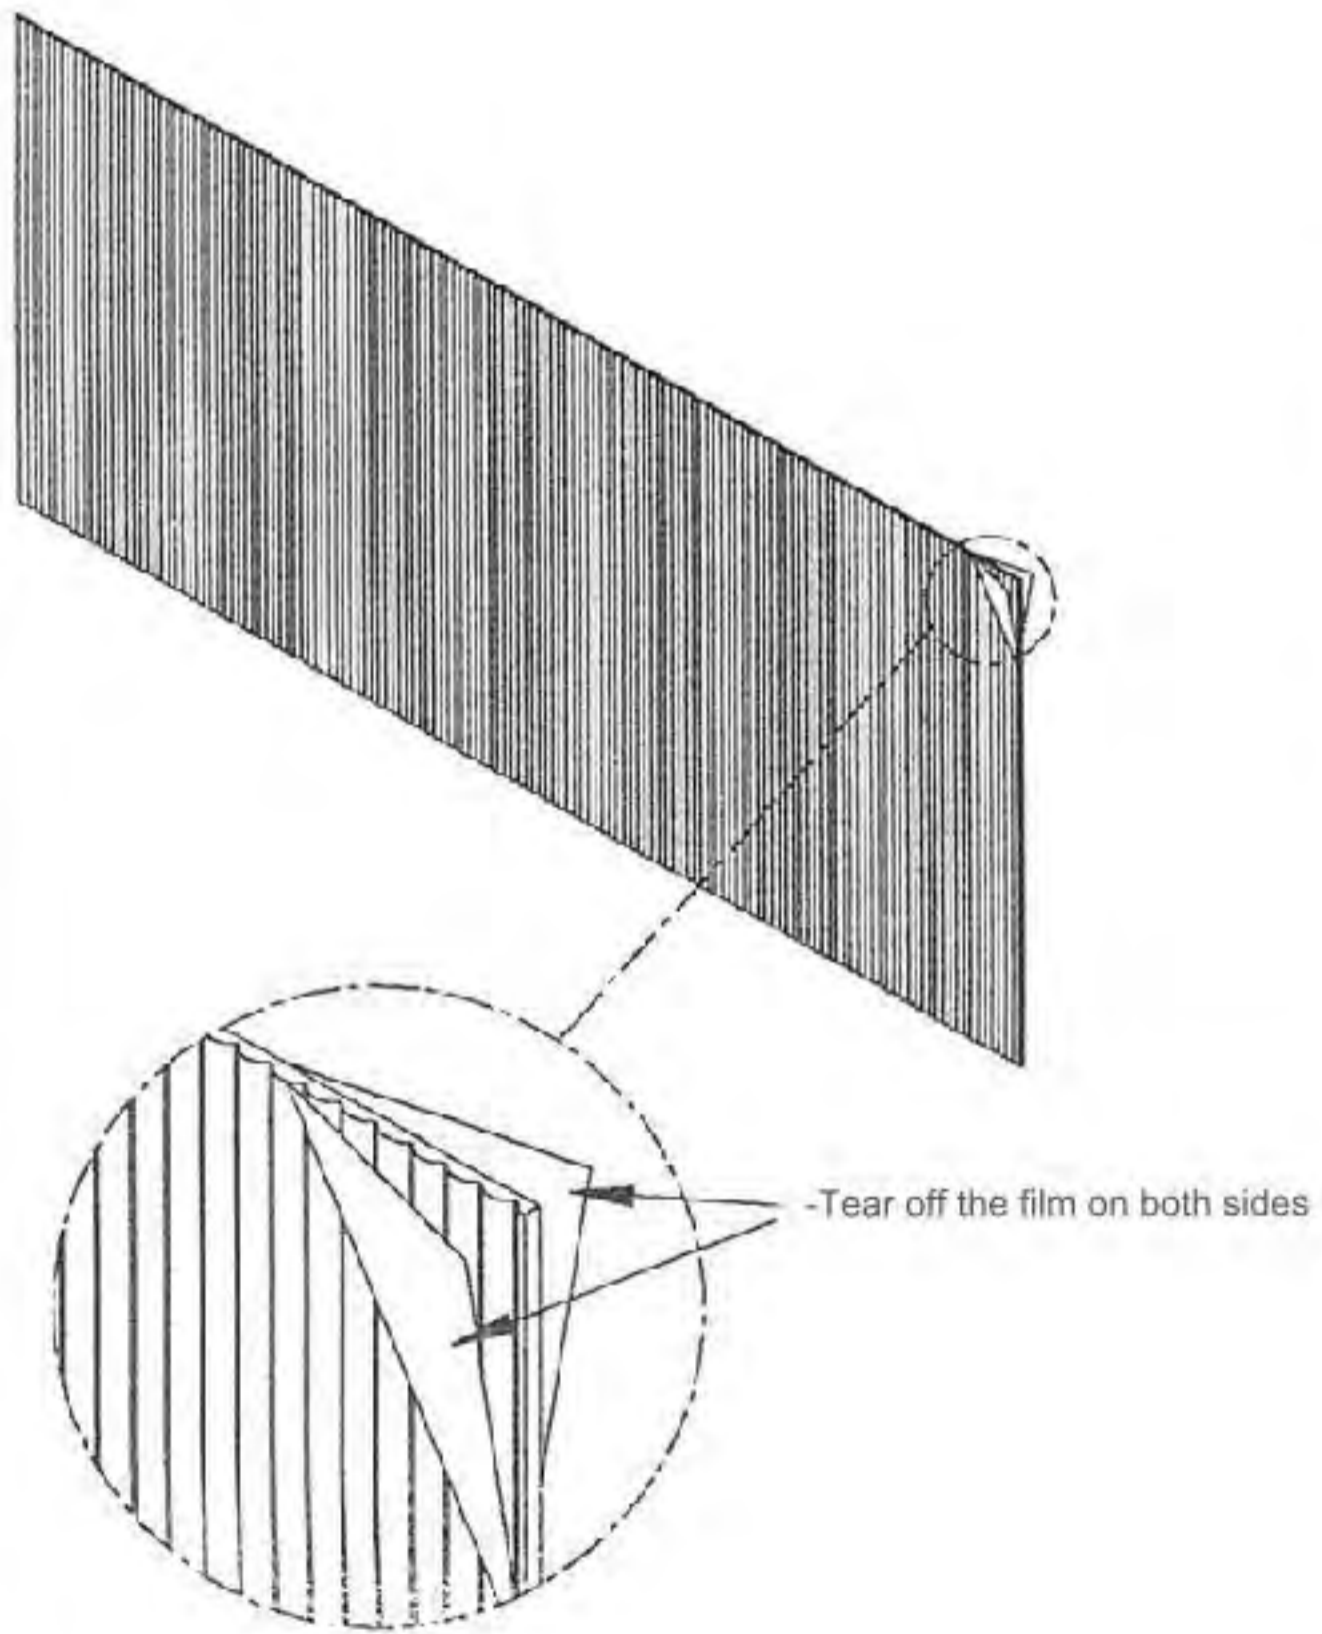
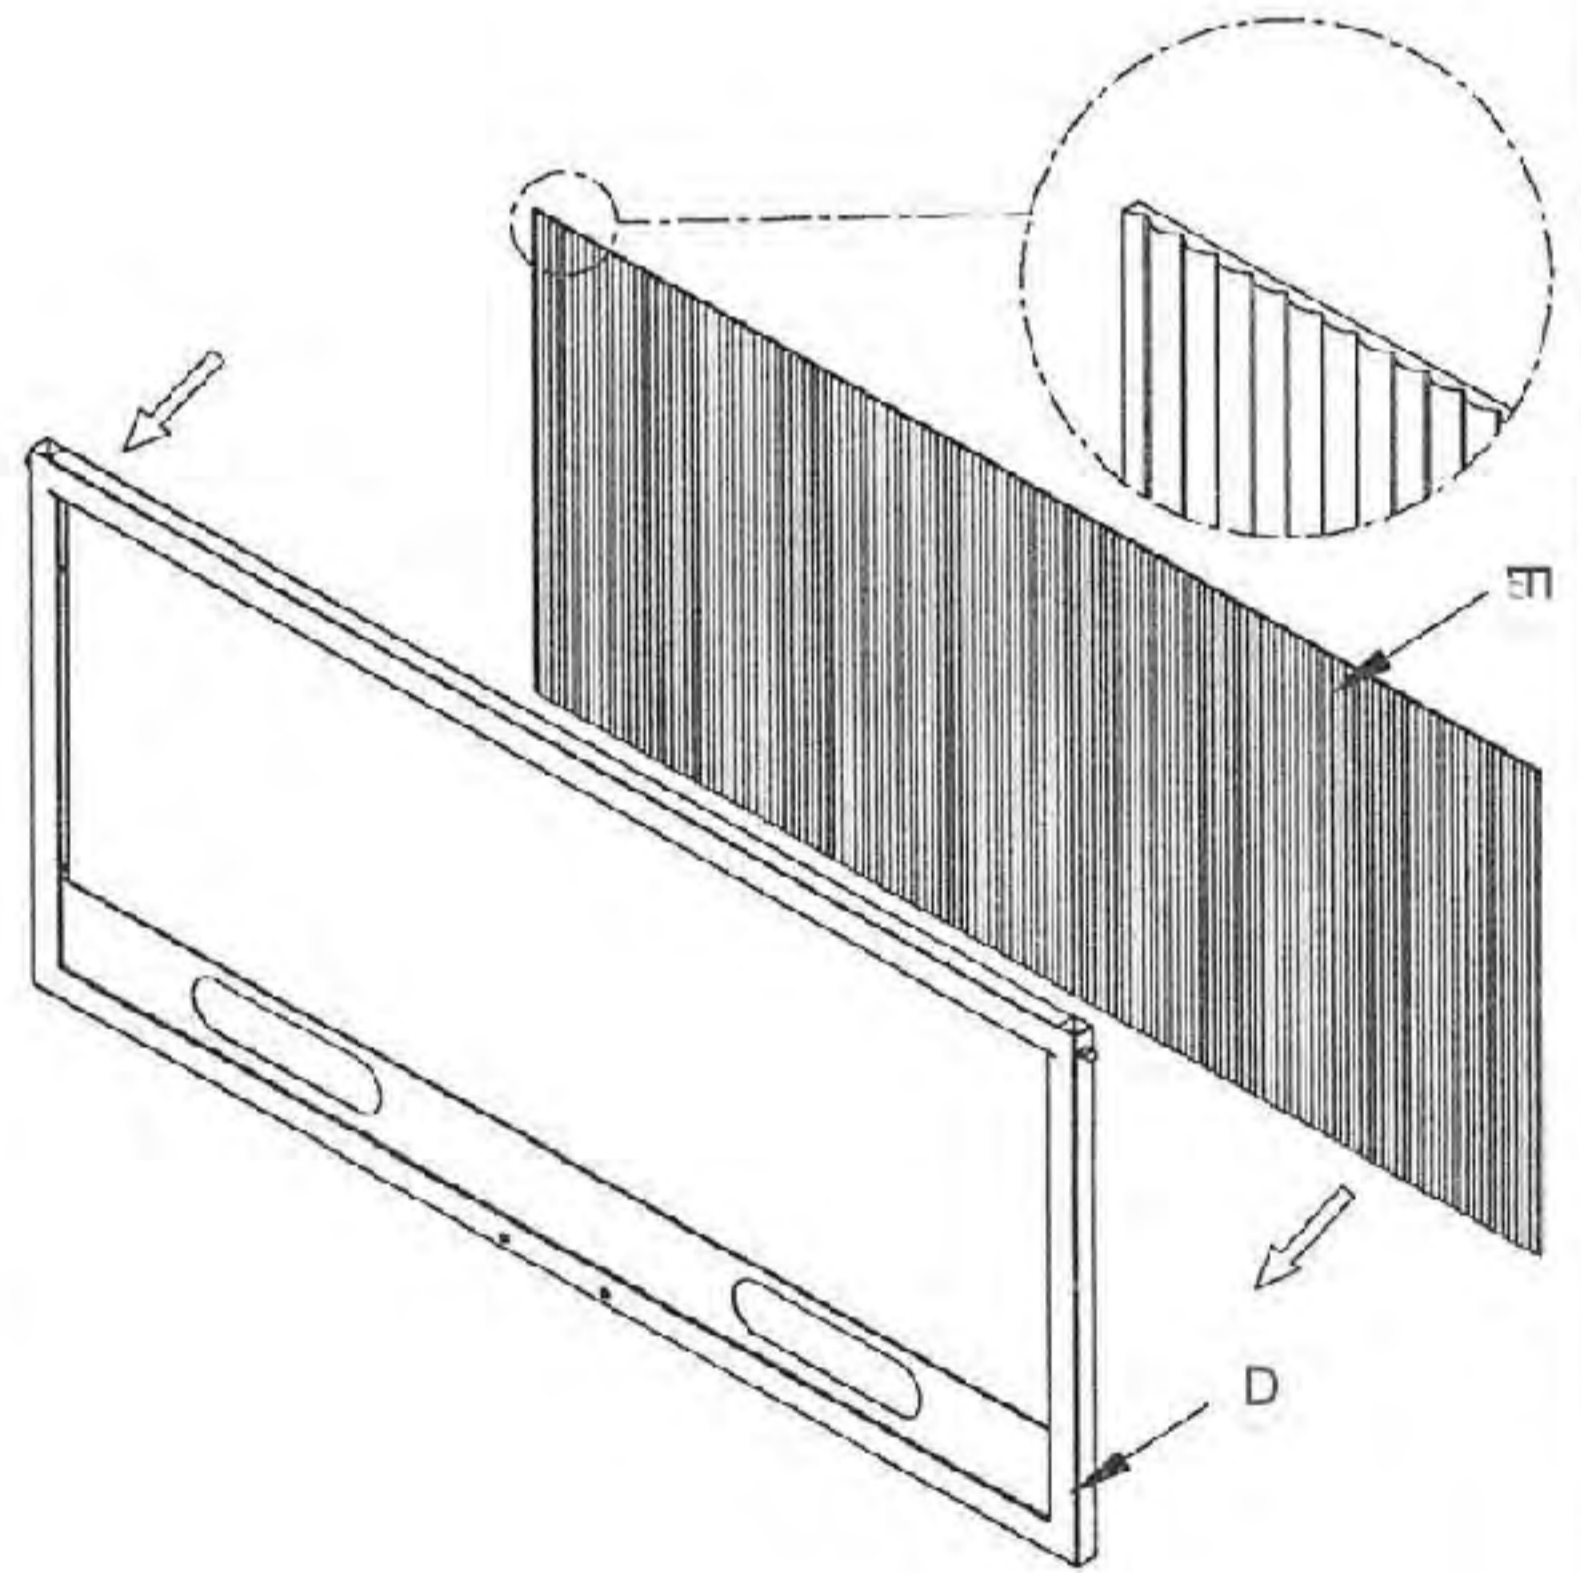

Figure 7
Figure 8
5. First tear off the film on both sides of the PET board as shown in Figure 7, then place the corrugated acrylic face forward into the door panel in the direction of the picture as shown in Figure 8